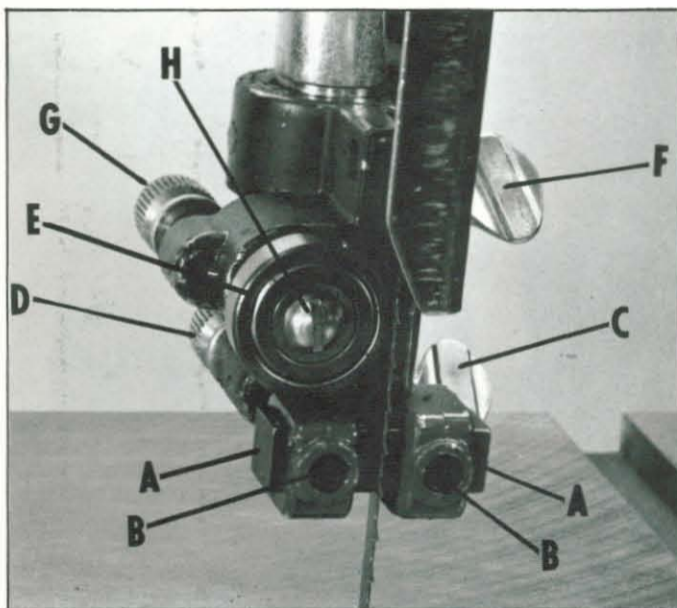

Fig. 20
1. The upper blade guides (A) Fig. 20, are held in place by means of the set screws (B). Loosen the set screws (B) to move the guides (A) as close as possible to the side of the blade, being careful not to pinch the blade. Then tighten the screws (B).
2. The guides (A) Fig. 20, should then be adjusted so that the front edge of the guides are just behind the "gullets" of the saw teeth. The complete guide block bracket can be moved in or out by loosening thumb screw (C) and turning knurled knob (D) Fig. 20. When guides (A) are set properly, tighten thumb screw (C).
3. The upper blade support bearing (E) Fig. 20, prevents the blade from being pushed too far to the back which could damage the set in the saw teeth. The support bearing (E) should be set $1/64''$ behind the blade by loosening thumb screw (F) and turning knurled knob (G) to move the support bearing (E) in or out.
4. The blade support bearing (E) should also be adjusted so the back edge of the blade overlaps the outside diameter of the ball bearing by about $1/16''$. The bearing (E) is set on an eccentric and to change position remove screw (H) and bearing (E) Fig. 20. Loosen thumb screw (F), back out screw (G) and re-position shaft that bearing (E) is attached to.